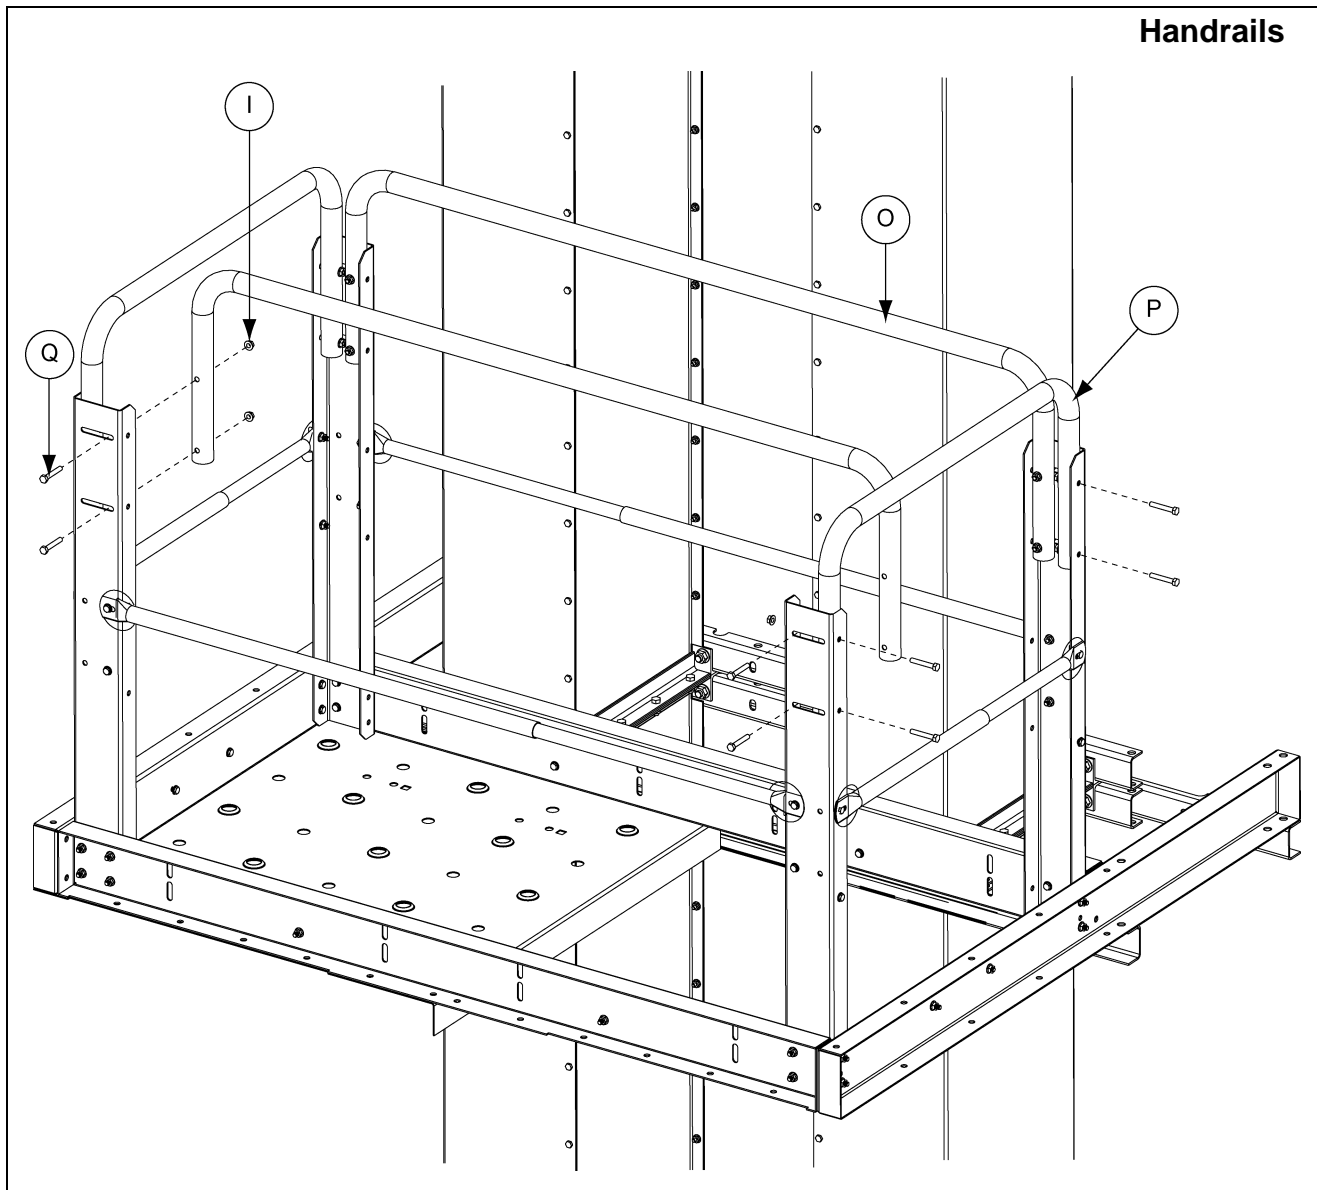

Figure 7L
7. Connect the front rest platform handrails and the side rest platform handrails to the handrail platform post using 5/16" x 2" hex bolts. (See Figure 7L.)